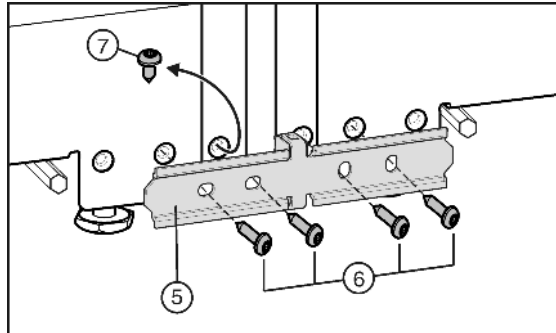

Fig. 6
- If the appliance is fitted with the pre-mounted screw Fig. 6 (7): Undo the screw.
- Fix the joining plate Fig. 6 (5) loosely to one appliance with two screws Fig. 6 (6).